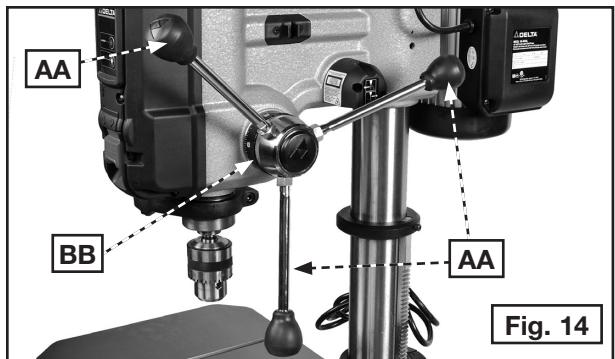

Fig. 14
Thread the three pinion shaft handles (AA) in the three holes located in the pinion shaft hub (BB) Fig. 14.